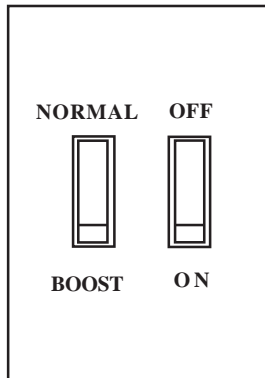

Fig. 5
- 5.2 The unit must be set up as detailed in section 5.3, so that the NORMAL setting on the fan speed control (see Fig. 5) enables the INLET fan to deliver the designed volume airflow. The switching from NORMAL to BOOST allows the unit to extract at a greater rate to cope with any increase in the build up of condensation or foul air, e.g. when cooking etc.